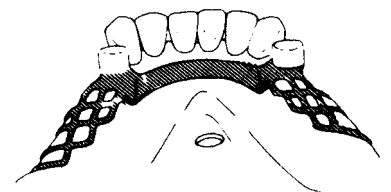

Fig. 14
5. Design and wax the partial denture frame. The frame should be waxed up to the base of the male retention sleeve represented on the refractory model. In the final prosthesis the retention sleeve can be connected to the frame with self-curing resin (Fig. 14).